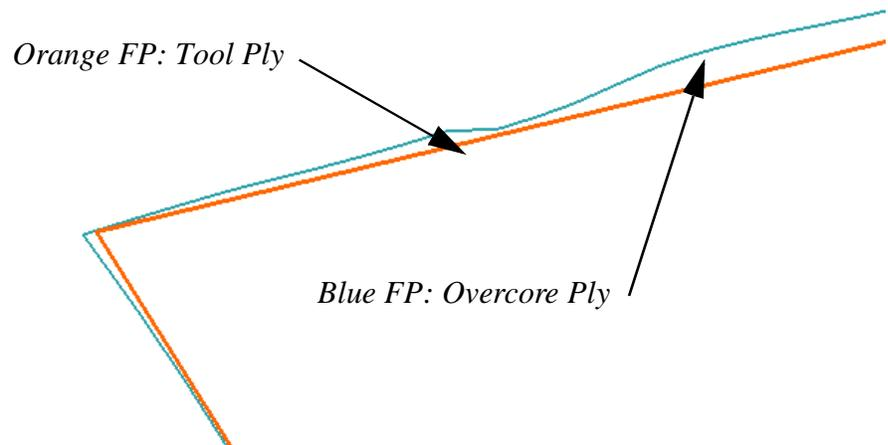

Figure 7–36
7. Switch to the **NX** window. In the Part Navigator, highlight **NET_FP_P001** to **NET_FP_P008** to display the net flat pattern results. Note the bulges in the updated flat patterns due to the different topology of the **Overcore** surface as shown in Figure 7–36.